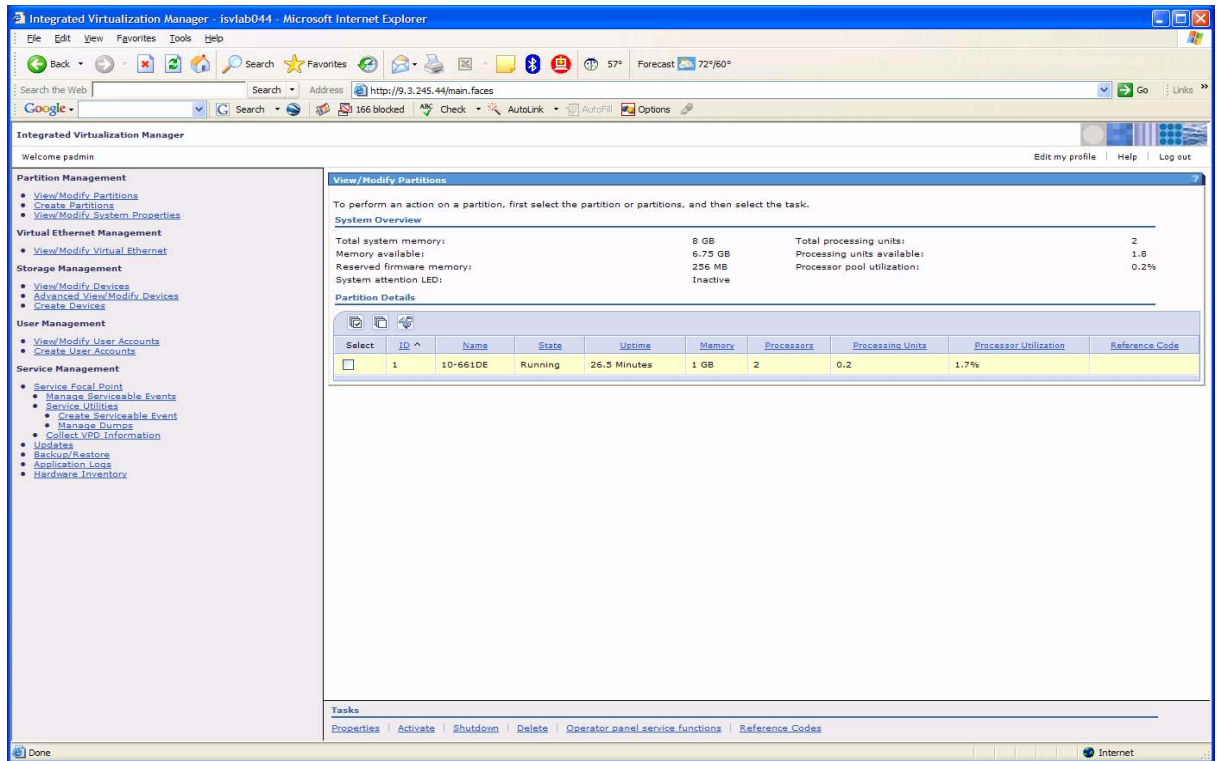

Figure 36. Viewing the main IVM display
8. You now see the main IVM display (see Figure 36).